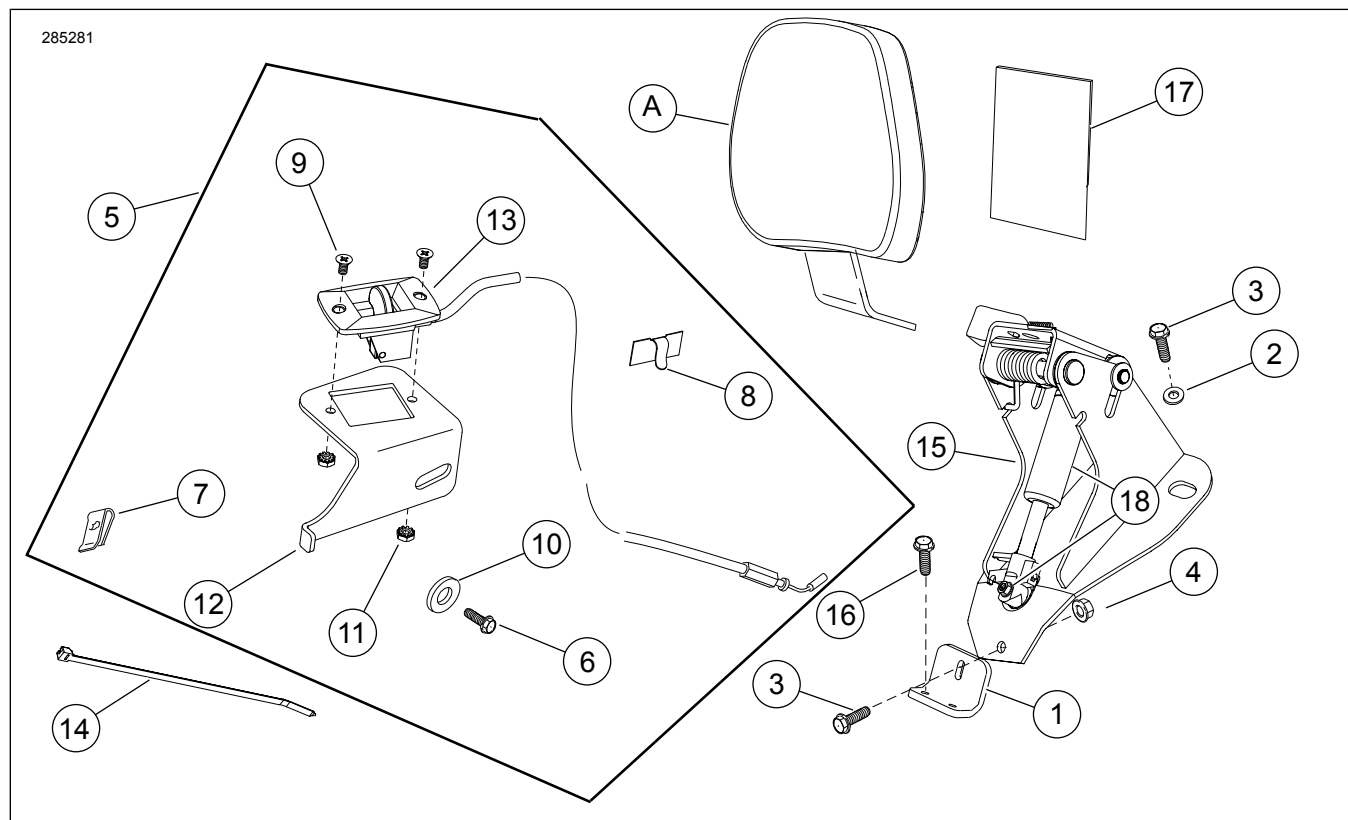

Figure 9. Service Parts: FL Adjustable Rider Backrest Mounting Hardware Kit
See Figure 9 and Table 1.
7. See Figure 9. Mount actuator handle with cable (13) to actuator handle bracket (12) with screws (9) and locknuts (11).
11. See Figure 9. Obtain the adhesive-backed clip (8) from kit. Clean the flat area of the adjustment handle bracket approximately in the location where the spark plug wire stock clip was removed using isopropyl alcohol. Attach the clip to the bracket and route the spark plug wire and evaporator tube (if equipped) through the clip. Fold clip down to capture the wire and/or tube securely.
4. See Figure 9. Obtain seat protector (17).